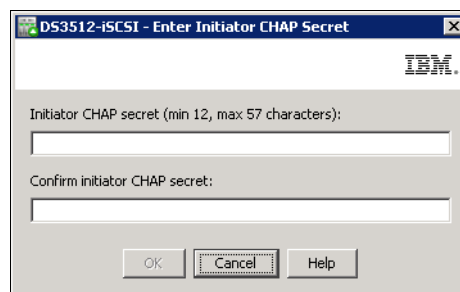

Figure 13-5 Storage Manager - Initiator CHAP Secret
3. In the new window as shown in Figure 13-5, type an Initiator CHAP Secret with at least 12 characters twice. The same Initiator CHAP secret must be set for iSCSI Initiator on any given host server. Click **OK** to continue.